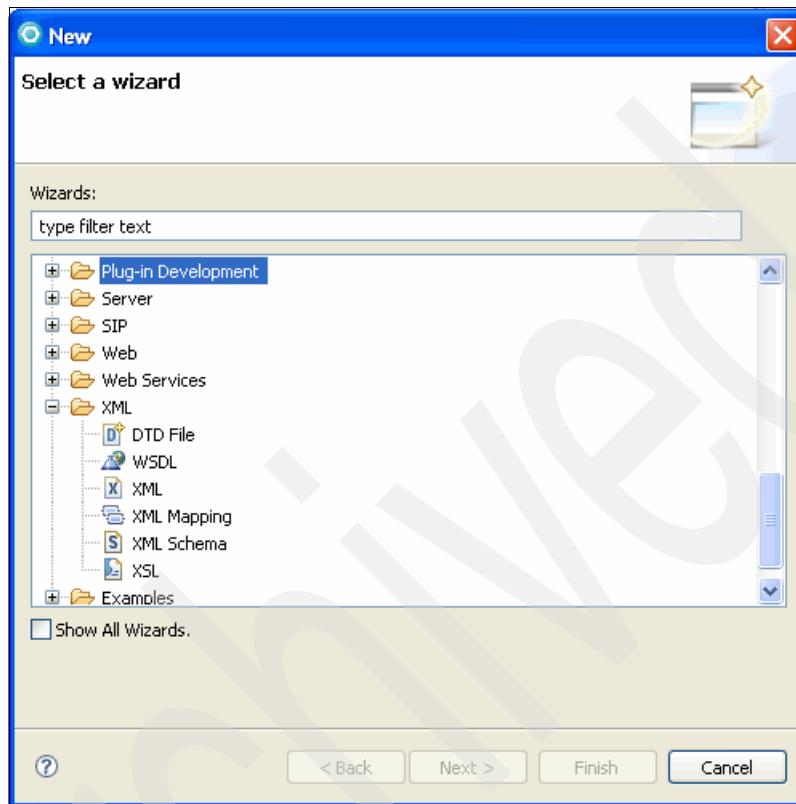

Figure 9-15 XML Schema wizard window
2. In the New – Select a wizard window (Figure 9-15), expand **XML** and select **XML Schema**. Click **Next**.